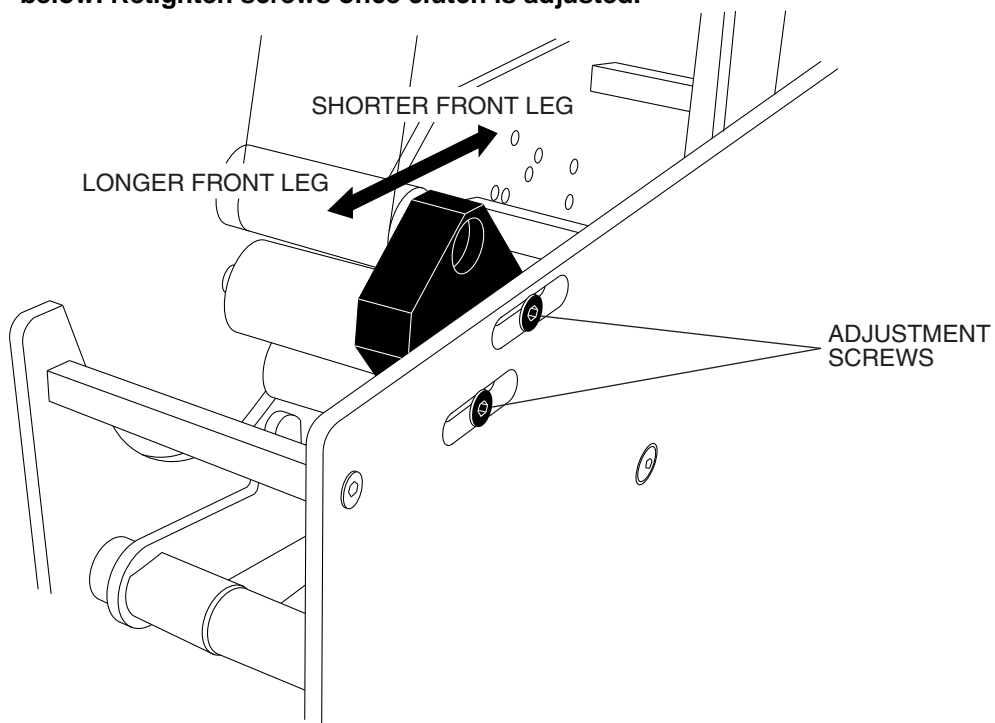

Figure 10 Front Leg Length Adjustment
4.7 Front Leg Length Adjustment – Figure 10